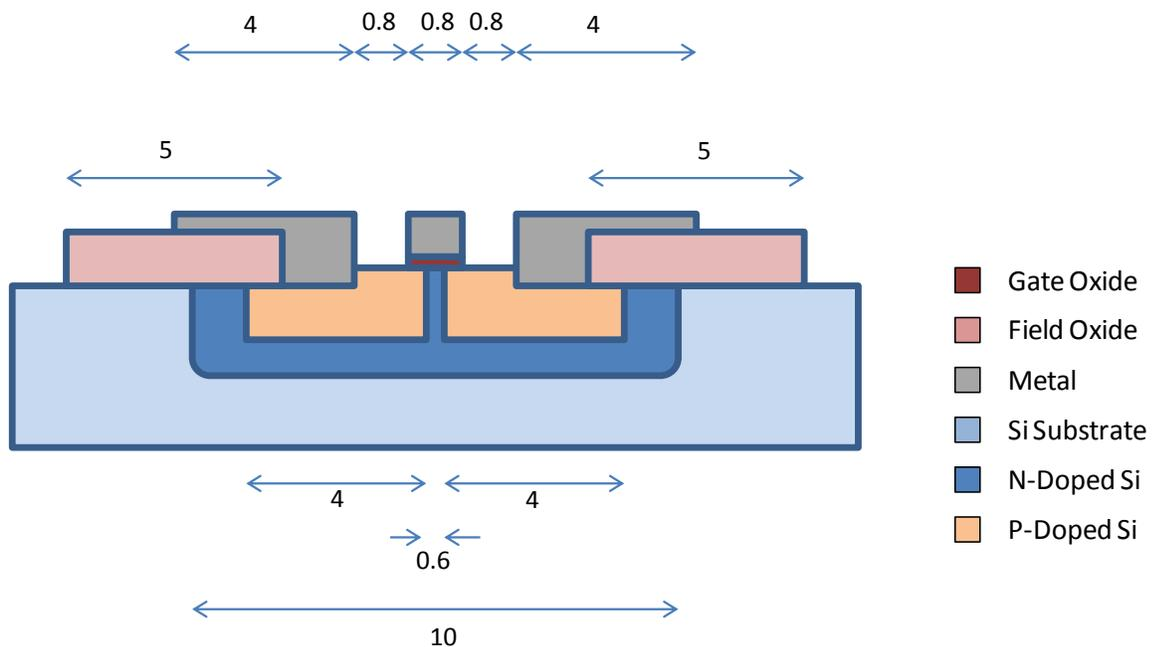

Figure 1. Cross section of a simplified PMOS structure (All dimensions are in microns)
3) A PMOS typically has a cross-section shown in the Figure 1 below. Please draw a set of masks to enable a device like this. Number the masks in the order that they will be used. For each mask, please include and indicate: